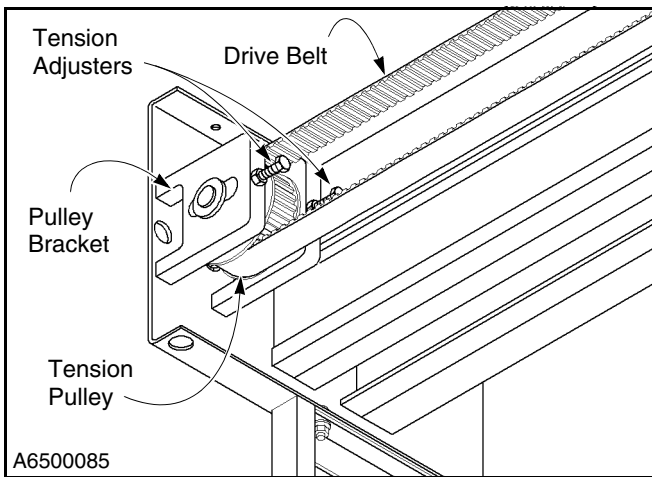

Figure 32
Drive belt tension is controlled by the position of the tension pulley. The position of the tension pulley is controlled by one pair of tension adjusters. (See Figure 32.)
3. Initially set the tension of the belt with the idler shaft centered along the slot that is machined on both sides of the pulley bracket. The position of the idler shaft is controlled by the tension adjusters. (See Figure 32.)